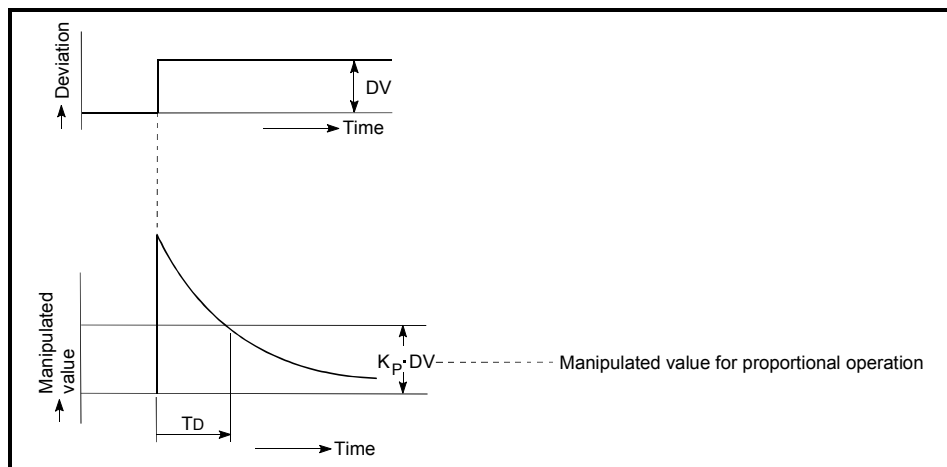

Fig. 4.4 Derivative operation when the deviation is a constant
- (3) The derivative operation when the deviation is a constant value stepped response is shown in Fig. 4.4.